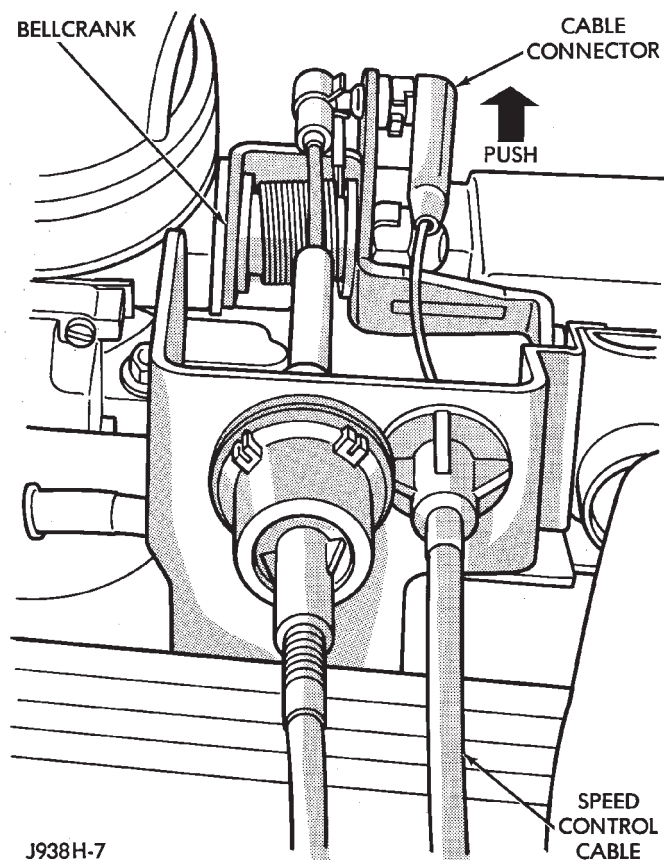

Fig. 2 Remove Bell Crank Connector
- (1) Using finger pressure only, remove speed control cable connector at bell crank by PUSHING connector off the bell crank (Fig. 2). DO NOT try to pull connector off perpendicular to the bell crank.